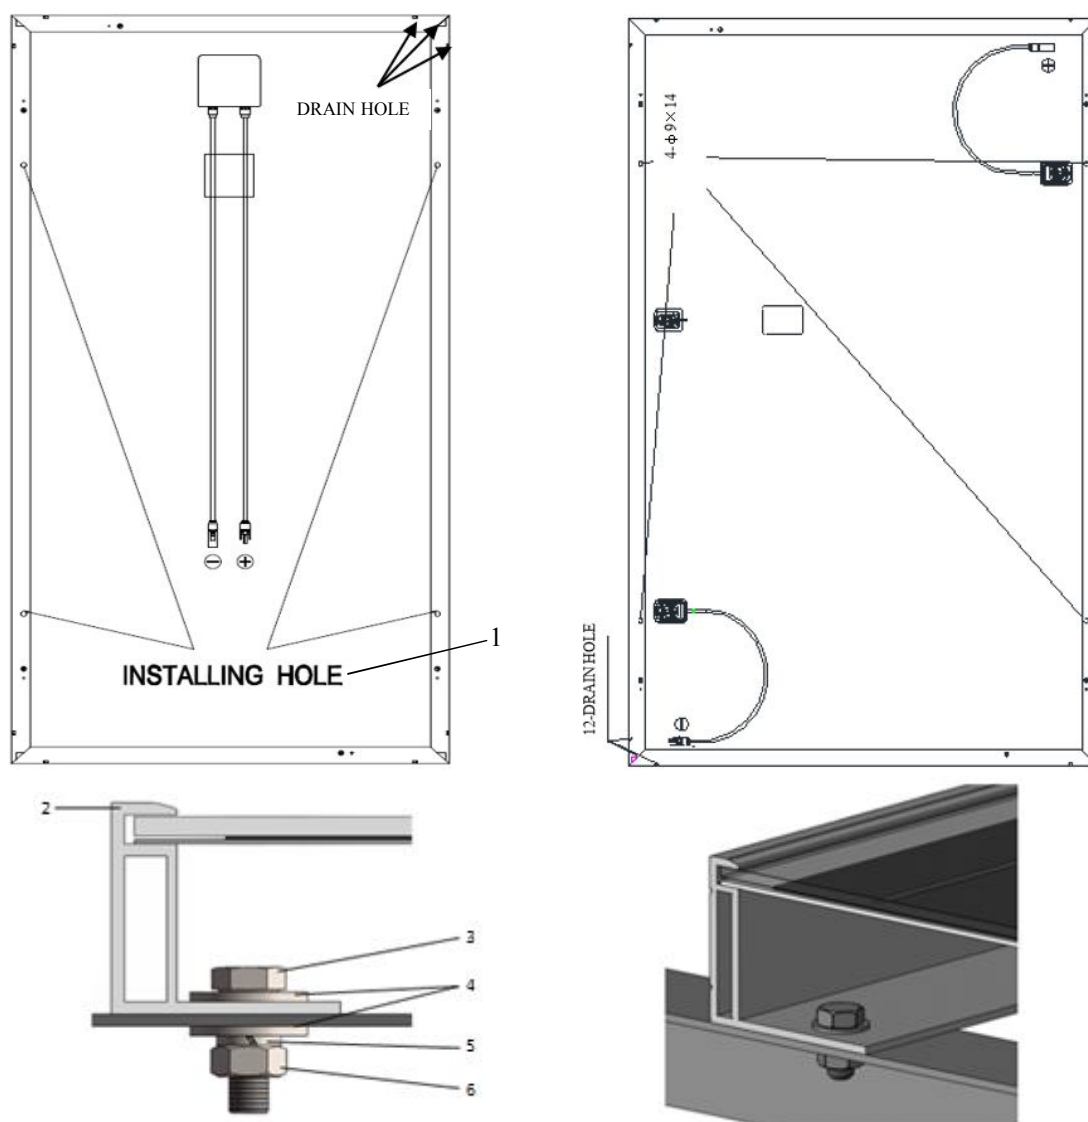

Figure 1. PV module installed with Bolt fitting method
- Secure the module in each fixing location with an M8 bolt and a flat washer, spring washer and nut as shown in Figure 1 and tighten to a torque of 16~20 N.m(140-180lbf.in.).